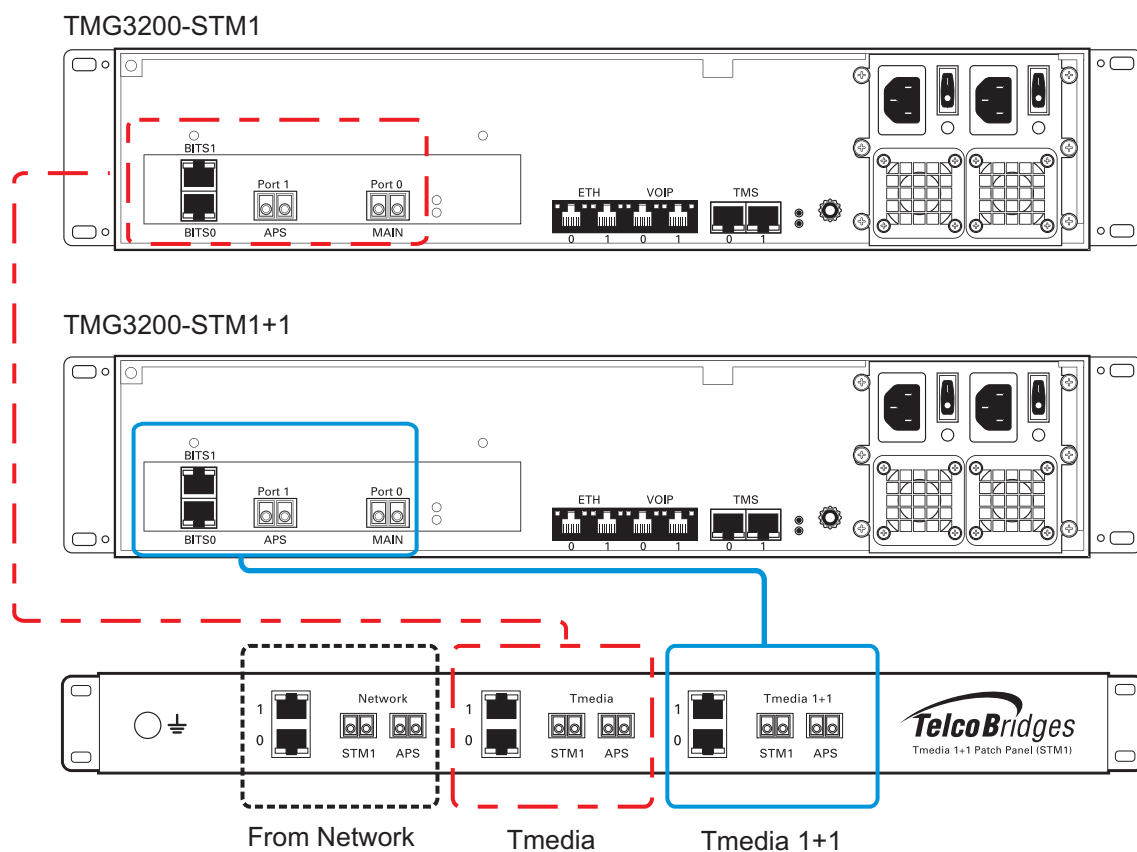

Figure 2.17 TMG3200-STM1 and TMG3200-STM1 +1 connecting to the STM1 1+1 1+1 patch panel
A TMG3200-STM1 and TMG3200-STM+1, each with one main and one backup OC3 or STM1 port enables the connection to OC3/STM1 lines. See figure 2.17 on page 39. Refer to table 2.4 on page 38 for a listing of optical interfaces. The default SFP module for OC3/STM1 connection is SMF, intermediate reach, (SFP-OC3-IR1) 1310 nm with LC type connectors.
1. Connect each OC3/STM1 line of the network section of the 1+1 patch panel to the remote equipment. See figure 2.17 on page 39.